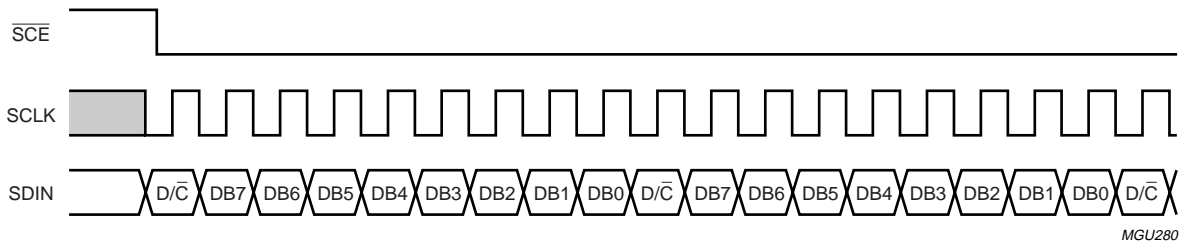

Fig.19 Write mode: transmission of several bytes.
- If  $\overline{SCE}$  stays LOW after the last bit of a  $\overline{\text{command/data}}$  byte, the serial interface receives the  $D/\overline{C}$  bit of the next byte on the next rising edge of SCLK (see Fig.19)